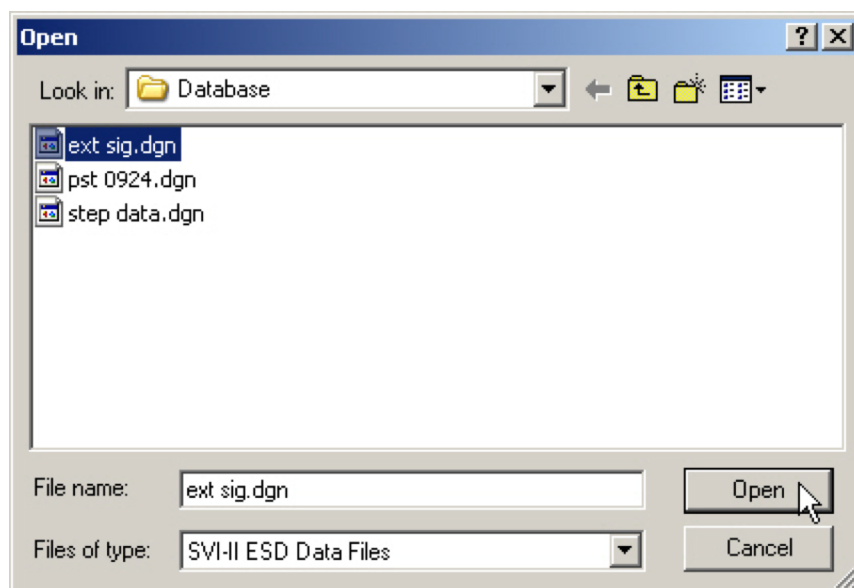

Figure 217 - Opening File for Additional Curve
3. Using the browser, locate the file to load and click **Open** (*Figure 217*).